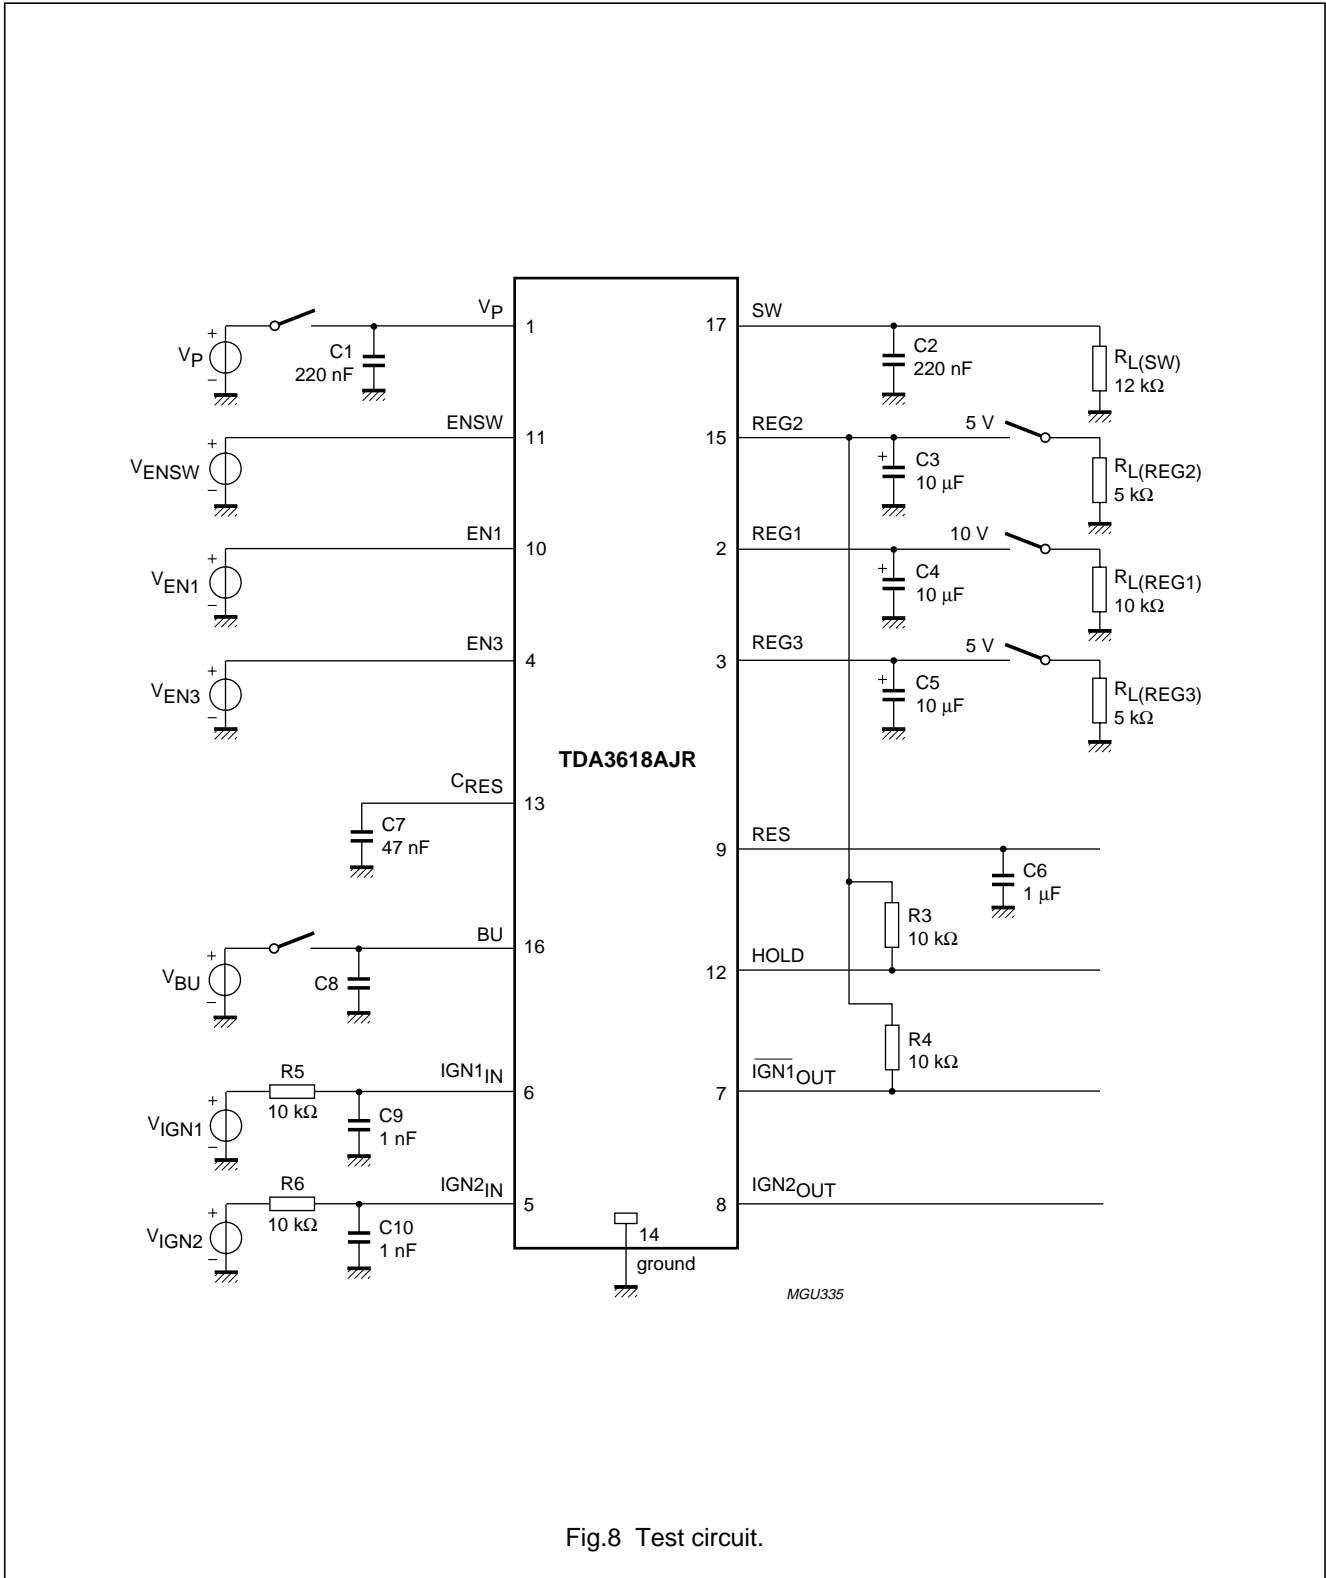

Fig.8 Test circuit.
- The quiescent current is measured in the standby mode with pins EN1, EN2 and ENSW connected to ground and $R_{L(\text{REG2})} = \infty$ (see Fig.8).